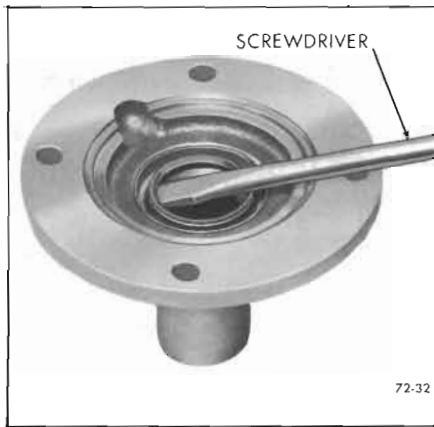

Figure 72-32—Removing Front Bearing Retainer Seal
1. Using screwdriver remove seal. See Figure 72-32.